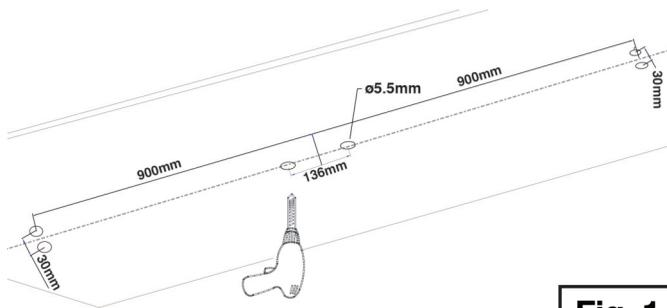

Fig. 1
1. Preparation for installation: As shown in **Fig. 1**, use tool to drill holes as shown below. Make sure the holes are properly aligned for a linear installation.